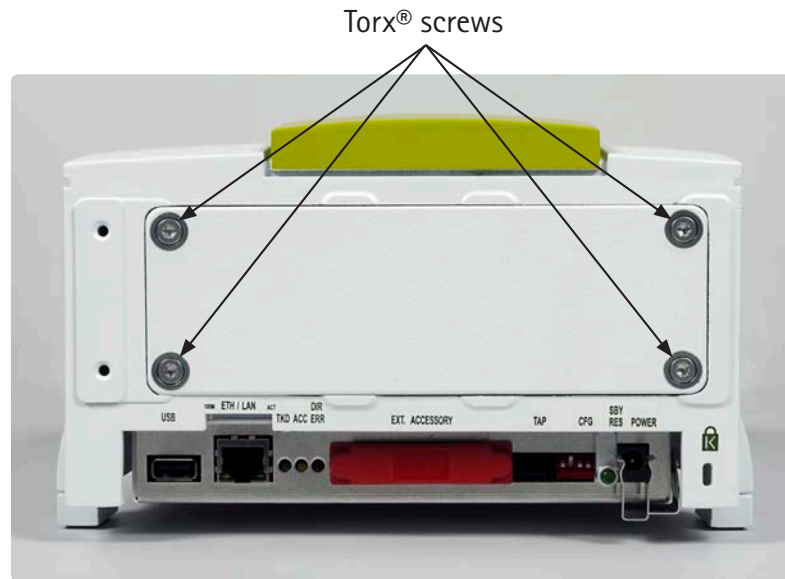

Figure 32. Removing the cover plate
2. On the back of the instrument, loosen the 4 cover plate Torx® screws with the Torx® TX20 screw driver supplied (Figure 32).
10. Attach the cover plate and fasten the 4 Torx® screws (Figure 32). Plug the power plug into the power outlet again.
2. The desiccant is accessible from the rear side of the spectrometer. Loosen the 4 Torx® screws (Figure 32) with the Torx® screw driver supplied and take off the cover plate.
6. Attach the cover plate and fasten the 4 Torx® screws again (Figure 32).